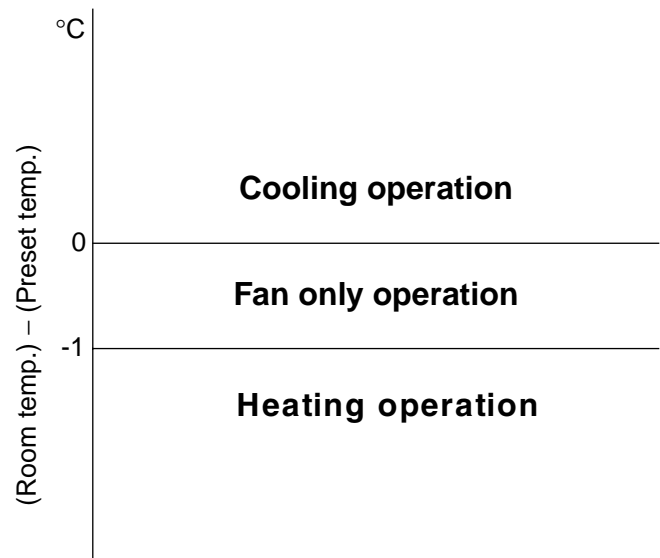

Fig. 7-3-9
- (1) One of 3 operations (Cooling, Fan only or Heating) is selected according to difference between the preset temperature and the room temperature at which the automatic operation has started, as shown in Fig. 7-3-9. The Fan only operation continues until the room temperature reaches a level at which another mode is selected.
- (2) Temporary Auto
When the [RESET] button on the indoor unit is pushed, the preset temperature is fixed at 24°C and the indoor unit is controlled as shown in Fig. 7-3-9.